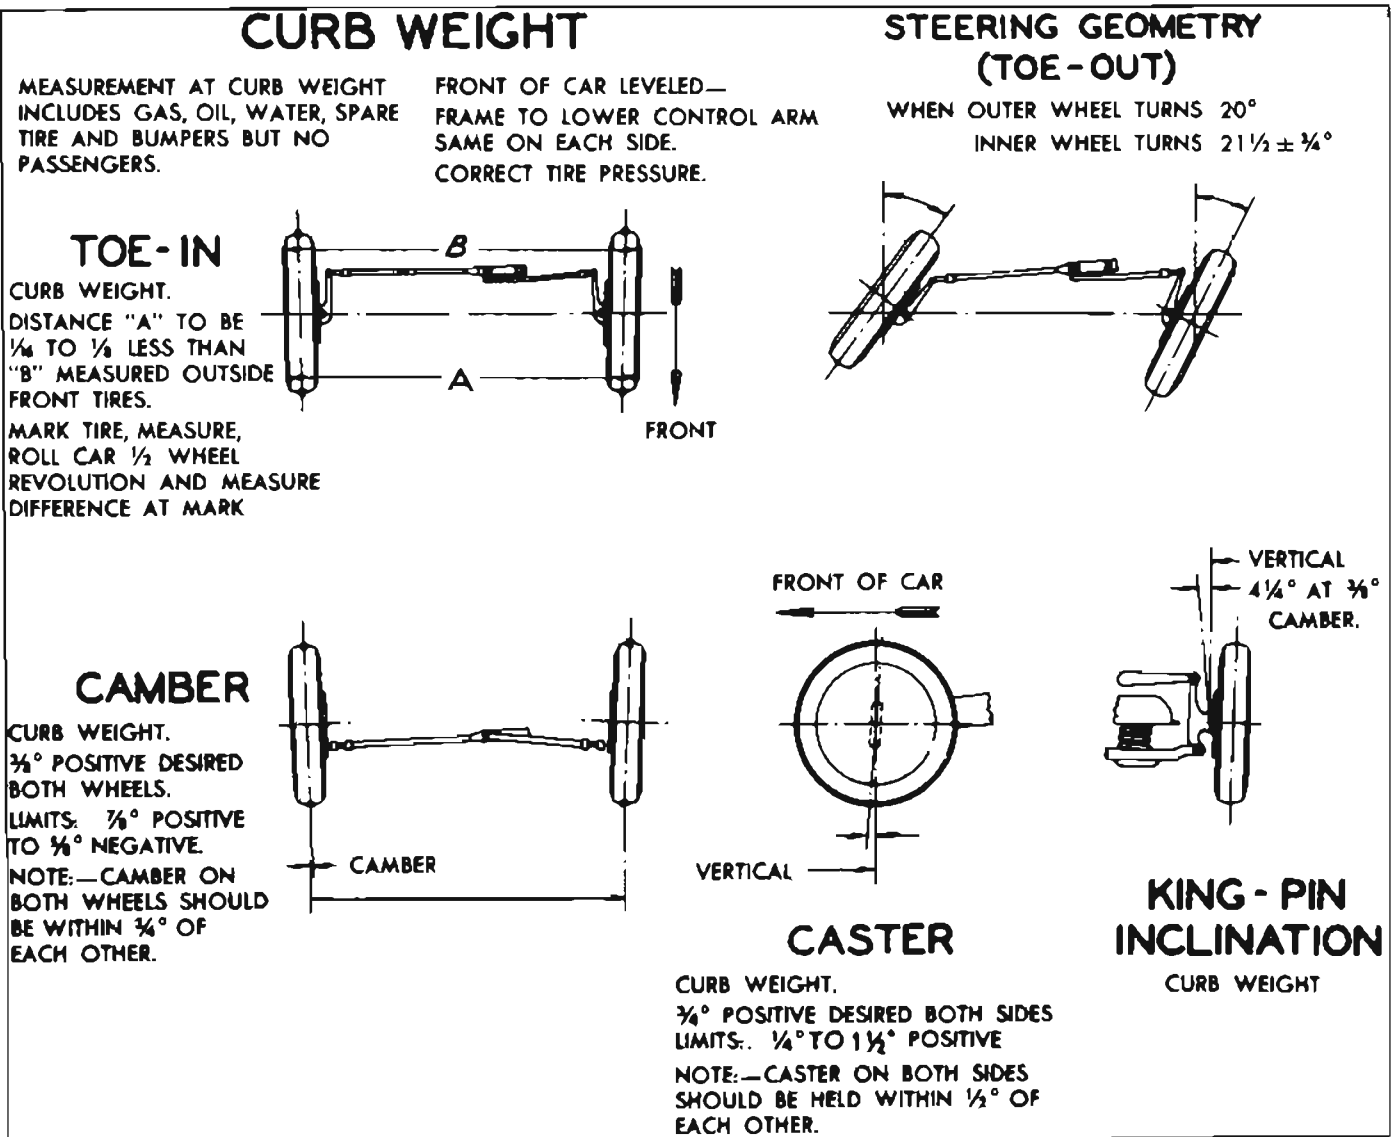

Figure 6-32—Front Wheel Alignment Specification Chart—All Series
Caster is the fore and aft angle or tilt of the king pin with reference to a line at right angle to road. See figure 6-32. When top end of king pin tilts rearward the caster is positive; when top end of king pin tilts forward the caster is negative.
Camber is the outward or inward angle or tilt of the wheels from centerline of car, with reference to a line at right angle to road. See figure 6-32. When top of wheel tilts outward the camber is positive; when top of wheel tilts inward the camber is negative or reverse.
King pin inclination is the inward angle or tilt of the king pin towards centerline of car, with reference to a line at right angle to road. See figure 6-32.
Toe-in is the setting of the front wheels so that the distance between them is less at the front than at the rear, when wheels are in straight ahead position. See figure 6-32.
wheels are turned sideways, the inside wheel must turn through a greater angle than the outside wheel in order to compensate for the difference in turning radius of these two wheels. This is necessary to avoid sidewise scuffing of front tires on a turn. See figure 6-32.
Caster and camber should be within the limits shown in figure 6-32. Note that the caster angles at both front wheels need not be exactly
Caster and camber must be adjusted together to obtain the best average setting of each within the specified limits given in figure 6-32.
2. Insert  $\frac{1}{4}$ " Allen wrench into hex socket in end of upper pivot pin, then turn pivot pin as required to bring the caster and camber settings within the limits specified in figure 6-32. One-quarter turn of pivot pin changes caster angle  $\frac{1}{4}$  degree. One-half turn of pivot pin gives the maximum available range of camber adjustment.
With camber known to be within specified limits, king pin inclination should check within specified limits given in figure 6-32.
1. With the front wheels resting on full floating turntables, turn wheels to the right until the outside (left) wheel is set at 20 degrees. The inside (right) wheel should then set at angle specified in figure 6-32.
2. Repeat this test by turning front wheels to the left until the outside (right) wheel sets at 20 degrees; the inside (left) wheel should then set at angle specified in figure 6-32.